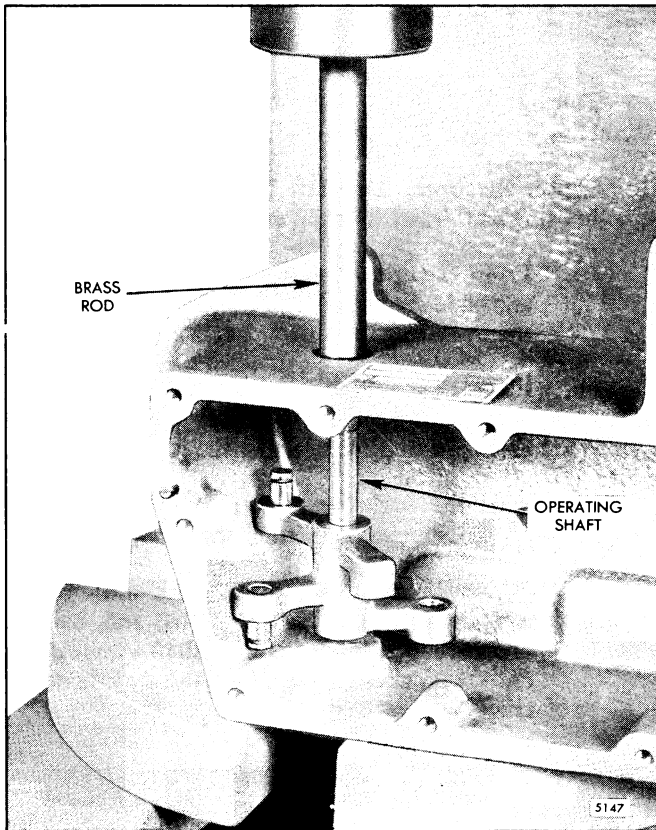

Fig. 8 - Removing Operating Lever Shafts and Enclosed Bearing Assemblies
- g. On former governors, loosen the set screw (48) securing the terminal shaft lever (25) in position on the terminal shaft (26).
- h. Place the control housing (27) in an arbor press with one of the operating shafts (58 and 60, current governors) or the terminal lever shaft (27, former governors) parallel and directly under the ram of the press. Place a brass rod between the ram and either end of the shafts (Fig. 8). Press the shafts straight through and remove the enclosed bearing assemblies (24) from each end of the shafts. Withdraw the operating shafts, operating levers and needle bearings (current governors) or the terminal lever, terminal lever shaft and needle bearings (former governors).